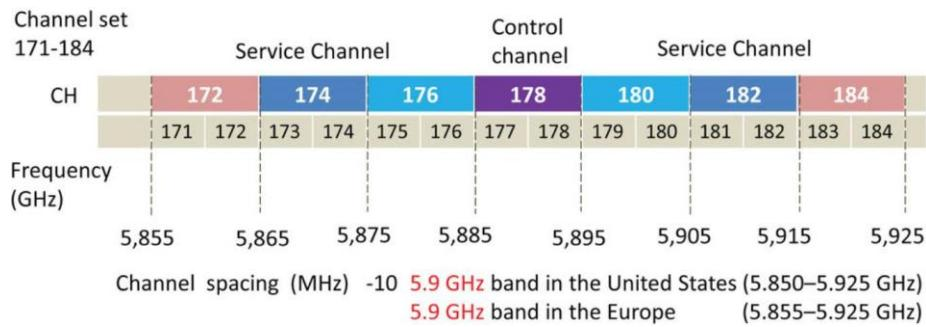

Figure 65: Distribution of CCH and SCH channels in 75 MHz band
The DSRC/WAVE standard has defined two types of channels: Control channel (**CCH**) and Service channel (**SCH**). The 75 MHz band is distributed into 1 central Control Channel (CCH) and 6 Service Channels (SCHs) as shown in Figure 65. Service channels are used for non-safety data transfer, while the CCH is used to broadcast safety and control messages (i.e., service advertisement messages).
Seven 10-MHz channels (172, 174, 176, 178, 180, 182, and 184) are defined as shown in Figure 65. The pair of channels (channel 174 and 176, and channel 180 and 182) can be combined to form a single 20-MHz channel, channel 175 and 181 respectively. The channel number (CN) is derived by counting the number of 5-MHz spectrum in the frequency band from 5000 MHz to the center frequency f (CN) of the channel CN, that is: